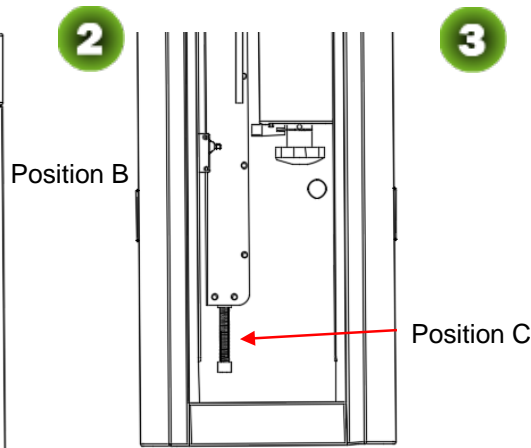

Figure 3-2
- 2) If the boom shakes during falling or lifting, adjust position C. The shaking that occurs during lifting is caused by the overlarge spring force. In this case, loosen the screws. If the boom shakes during falling, tighten the screws. See Figure 3-2.